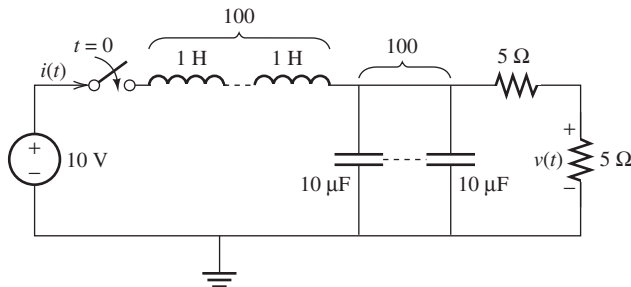

FIGURE P5.38 Circuit for Problem 5.38.
5.38 (A)* Consider the circuit shown in Figure P5.38. The switch closes at $t = 0$, find $i(\infty)$ and $v(\infty)$.